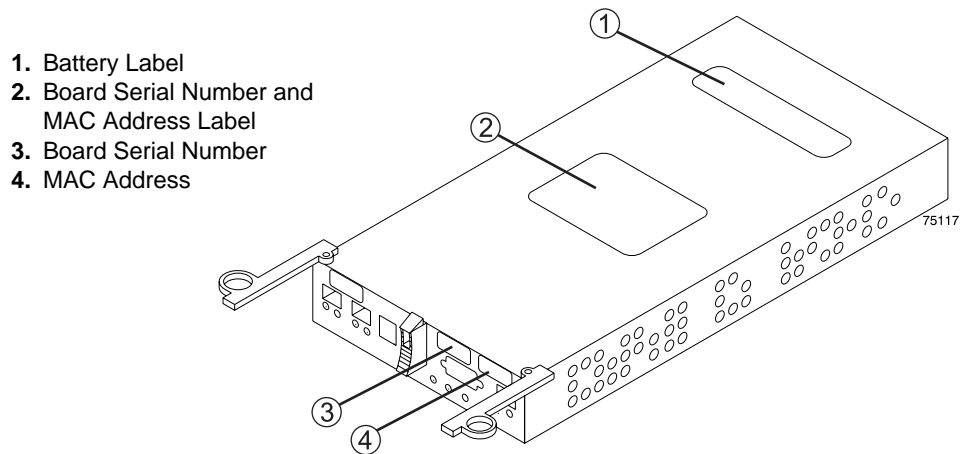

Figure 4-5 Label Locations on the Controller
- 14 Update the following information on the controller labels. Figure 4-5 on page 4-6 shows the location of the labels.